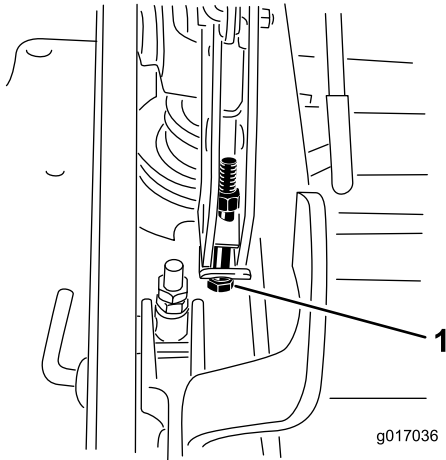

**Figure 88**
12. To adjust the single point system, loosen the two bolts at the bottom of the height of cut plate. Refer to Figure 88.
14. Tighten the two bolts at the bottom of the height of cut plate (Figure 88). Torque to 37-45 N-m (27-33 ft-lb).